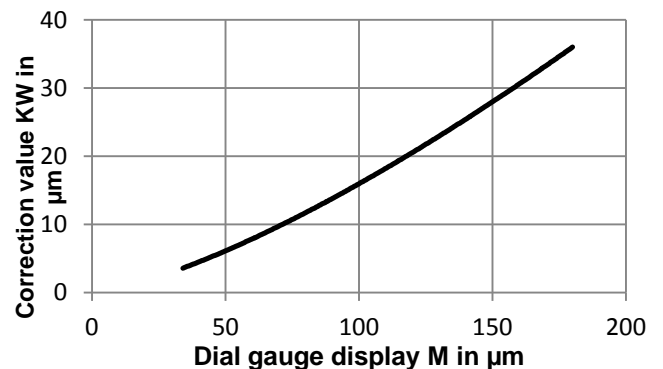

Figure 5: Relationship between correction value and dial gauge
4. Determine the correction value (KW) from fig. 5.